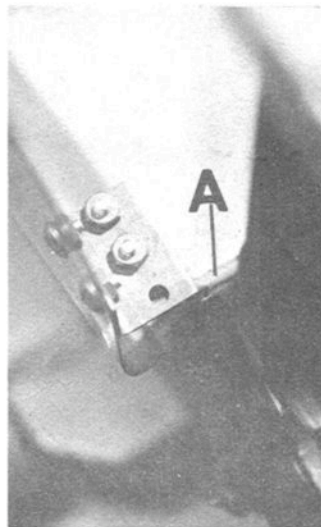

FIGURE 4
4. Place Hood on Tractor so that Clip Springs snap over rod (A in Figure 4) welded to Battery Mount.